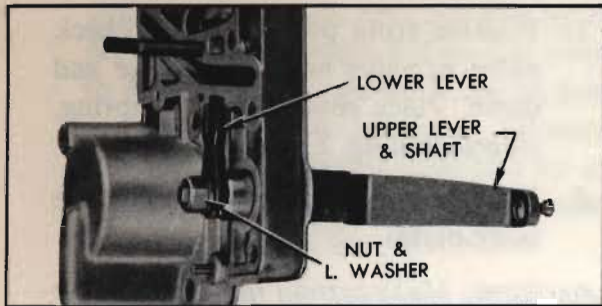

Fig. 48. Installation of valve operating levers
- Using a 1/2" box wrench, remove the nut which attaches the lower operating lever to the upper lever and shaft. Remove both levers (Fig. 48).
6. Install valve operating upper lever shaft through bearing in valve body. Position the upper lever so that it points away from the low servo. Install the lower lever on shaft (Fig. 48).